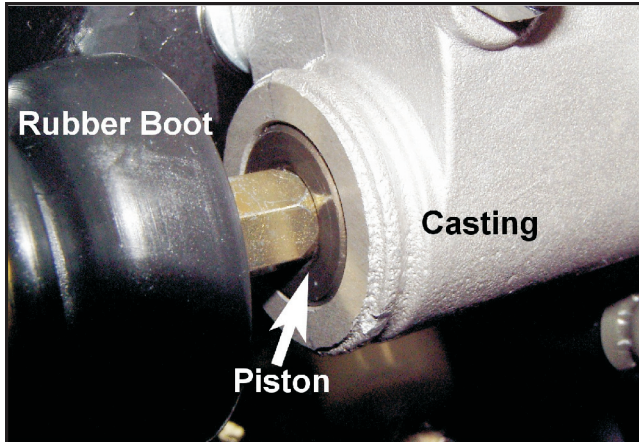

Figure 7-24. Location of piston.
2. Pull back the rubber boot at both master cylinder plunger pins and check each piston location relative to the face of the master cylinder casting as illustrated in Figure 7-24. Use a straight edge against the face of the casting to ensure the piston is between zero and 0.5 mm depth in the master cylinder.